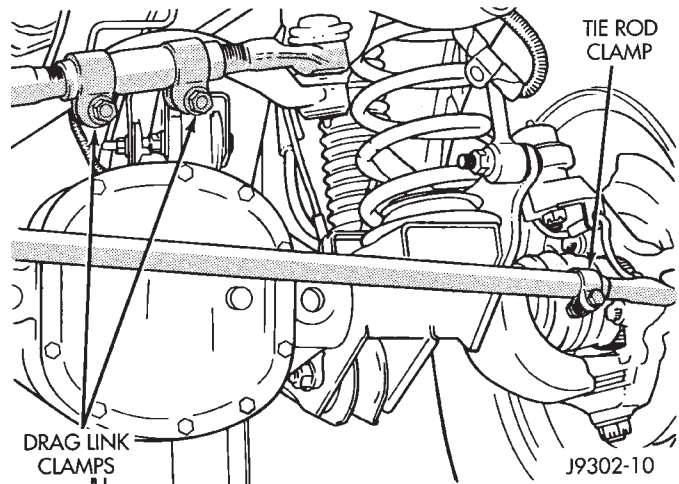
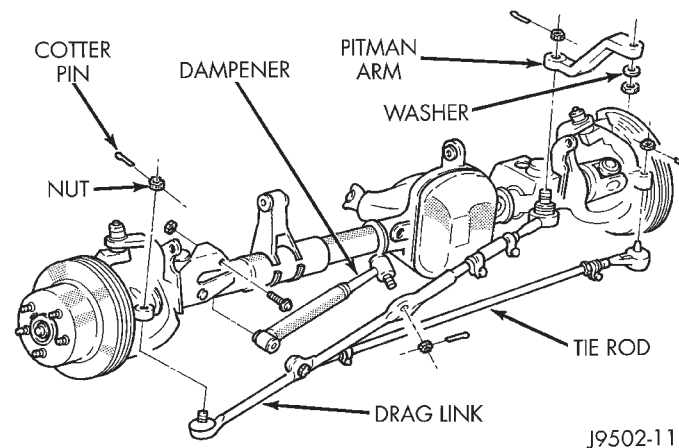

Fig. 3 Drag Link and Tie Rod Clamp
Fig. 4 Steering Linkage
(1) Start the engine and turn wheels both ways before straightening the steering wheel. Center and secure the steering wheel.
(2) Loosen the adjustment sleeve clamp bolts (Fig. 3).
(3) Adjust the right wheel toe position with the drag link (Fig. 4). Turn the sleeve until the right wheel is at the correct positive TOE-IN position. Position the clamp bolts as shown (Fig. 3) and tighten to 49 N·m (36 ft. lbs.). **Make sure the toe setting does not change during clamp tightening.**
(4) Adjust the left wheel toe position with the tie rod. Turn the sleeve until the left wheel is at the
same TOE-IN position as the right wheel. Position the clamp bolts as shown (Fig. 3) and tighten to 27 N·m (20 ft. lbs.). **Make sure the toe setting does not change during clamp tightening.**